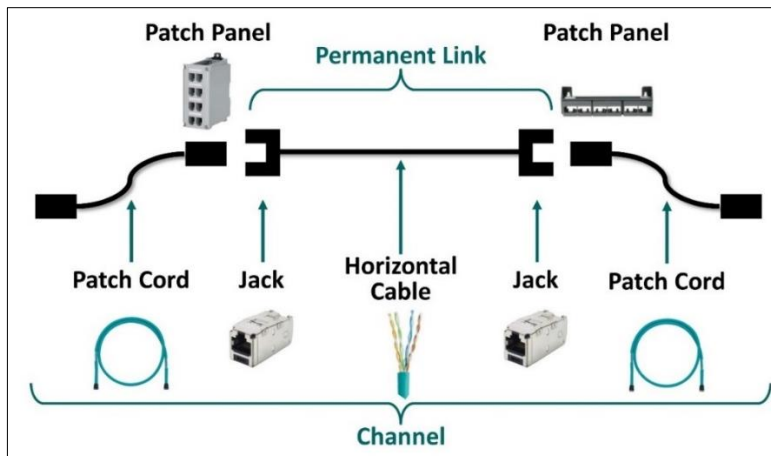

Figure 3. Structured connectivity diagram.
The cabling between the distributors is a stationary solid conductor routed in a pathway such as a ladder, tray, or conduit. The installer terminates the cabling to a jack in a rack unit (RU) or DIN form factor patch panel. Tested and validated patch cords connect the active equipment to the jack on both ends, completing the channel (Figure 3). Structured cabling has proven to work well for these implementations.